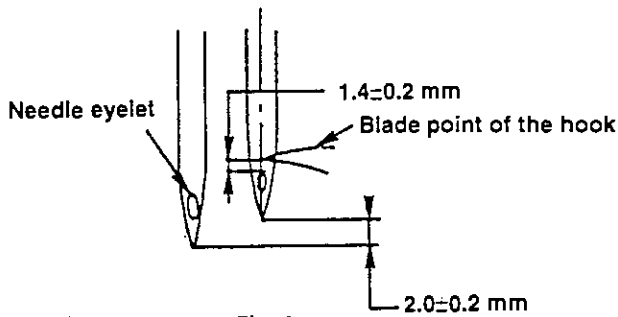

Fig. 2
<ol style="list-style-type: none"> 1. Set the stitch dial at "0" on the scale. (Fig. 1) 2. Turn the handwheel to bring the needle bar to the lowest dead point. 3. Loosen clamping screw ❶ of the needle bar connecting stud (Fig. 3) 4. Adjust the height of the needle bar to the specified dimension. (Fig. 2) 5. Tighten needle bar connecting stud clamping screw ❶. (Fig. 3) 	<ul style="list-style-type: none"> ○ Stitch skipping and thread breakage may result. <p>4' At this time, align the bottom face of the needle bar frame with the marker line engraved on the needle bar (the upper one of the two marker lines engraved on the needle bar). This will enable you to adjust the height of the needle bar almost to the specified dimension.</p>